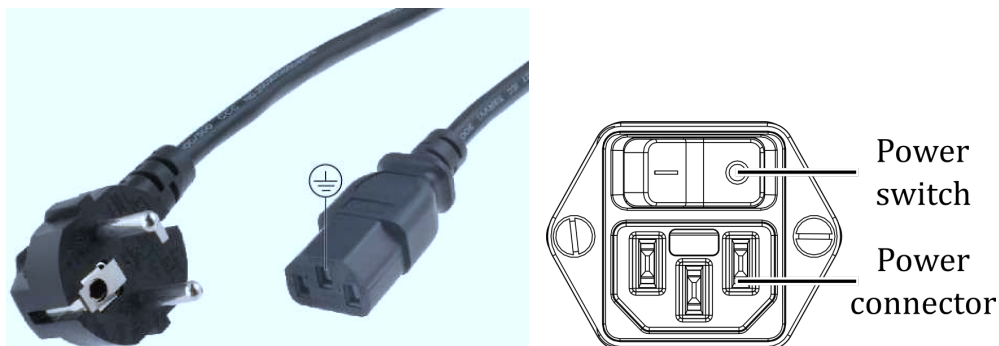

Figure 2.1: Three-conductor cable with protective ground and mains connection
The mains switch is installed on the rear panel of the MG15 . The switch has two positions marked as **I** i **O** (see fig. 2.1). The switch in the position **I** (ON) supplies power to the device. The switch in the position **O** (OFF) disconnects power from the device. However, it possible that the mains switch does not remove voltage from the separate components of the device. Therefore, always disconnect the mains cable to remove residual voltage of the device modules.